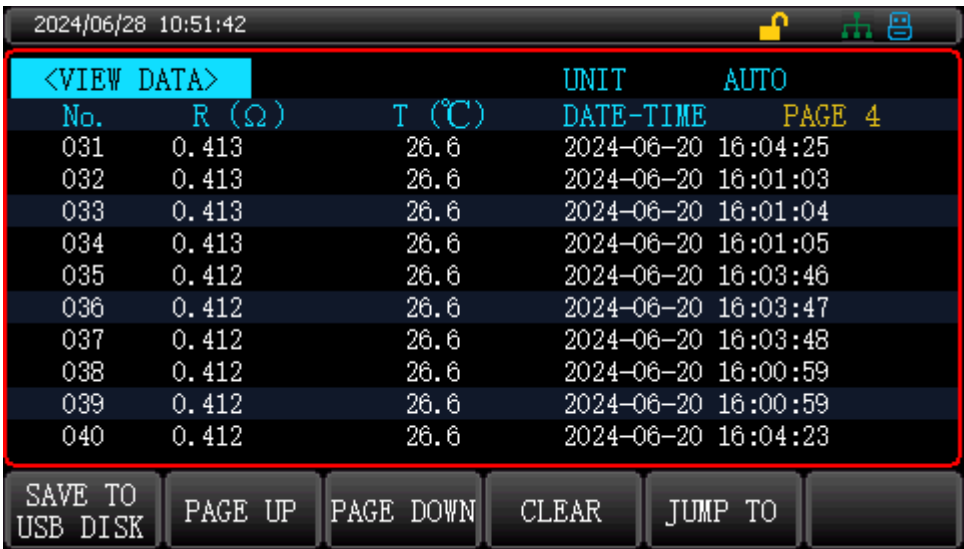

Figure 6-10 View Data
1. Enter the rename file page as shown in Figure 6-10. Use the numeric keypad to enter the number.